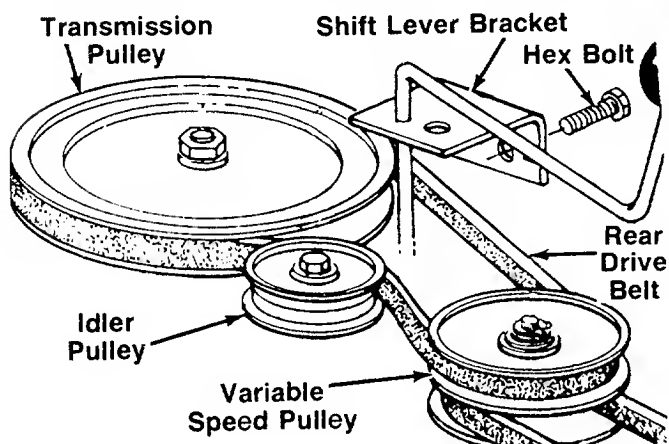

FIGURE 22.
3. Push the idler pulley toward the right side of the unit. Lift the belt over the idler pulley. See figure 22.
5. Remove the two bolts which hold the shift lever bracket to the frame on the left side of the unit. Swing the bracket toward the right so the belt can be removed from the transmission pulley. See figure 22.